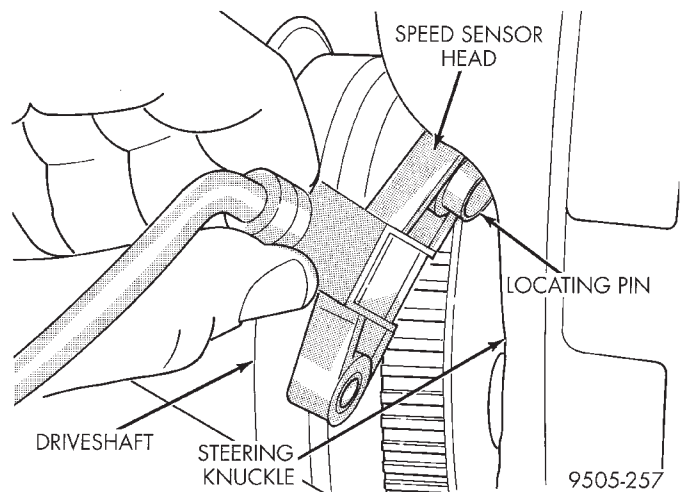

Fig. 36 Installing Speed Sensor Head In Steering Knuckle
(3) Install the speed sensor cable routing bracket on the steering knuckle. Install and tighten routing bracket mounting bolt to a torque of 12 N·m (105 in. lbs.)
(4) Install speed sensor head on steering knuckle (Fig. 36). When installing speed sensor head on steering knuckle, apply a small amount of grease on speed sensor locating pin (Fig. 36). Use Mopar, Multi-Purpose Grease or an equivalent on speed sensor head locating pin. Install the speed sensor head attaching screw and tighten to a torque of 6 N·m (55 in. lbs.).